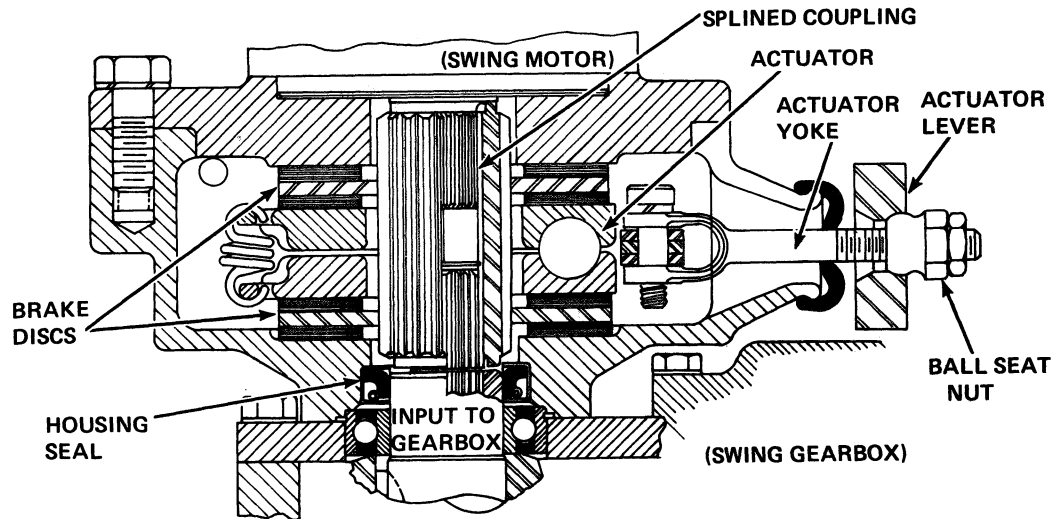

Figure 4. House Brake, Cross Section View
2. Loosen jam nut (A). See Figure 4. Turn ball nut (B) clockwise until it is snug in its seal. Back off